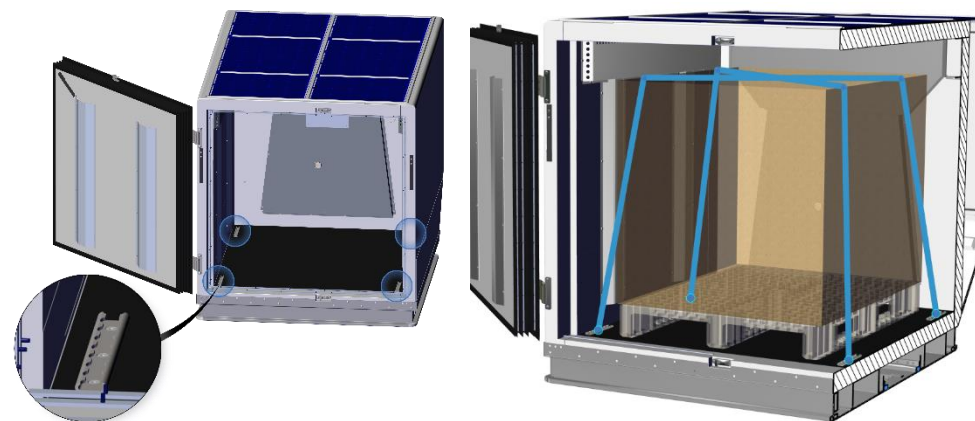

Figure 19 – Straps attachment on the tie-down tracks.
4. Secure the load to the tie-down tracks with straps (Figure 19);